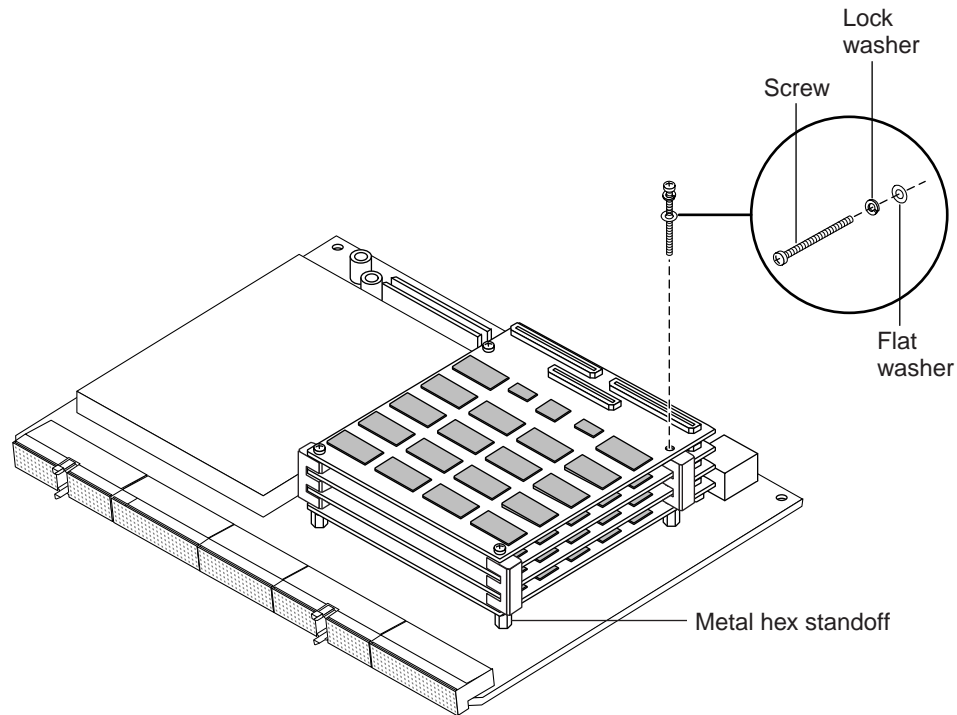

FIGURE 12 Dropping the Screws into the Aligned Mounting Holes
13. **Insert each screw into one lock washer and one flat washer, then drop the screws (with the washers) into the aligned mounting holes of the memory boards and the plastic spacers (see FIGURE 12).**
14. **Using your fingers, turn all four screws until they take up just the first one or two threads in the metal hex standoffs (see FIGURE 12)**